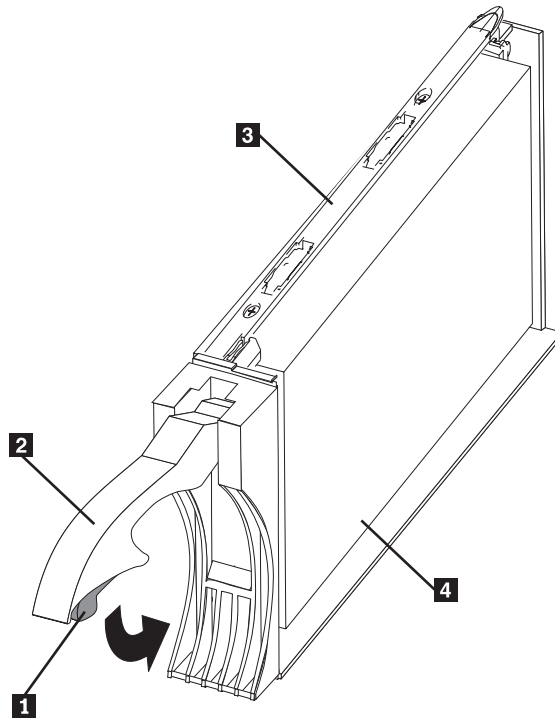

Figure 19. Drive CRU assembly
**Note:** Your hard disk drives might have a different latching mechanism than the one shown in Figure 19 on page 62. See the documentation that comes with your storage enclosure for details.